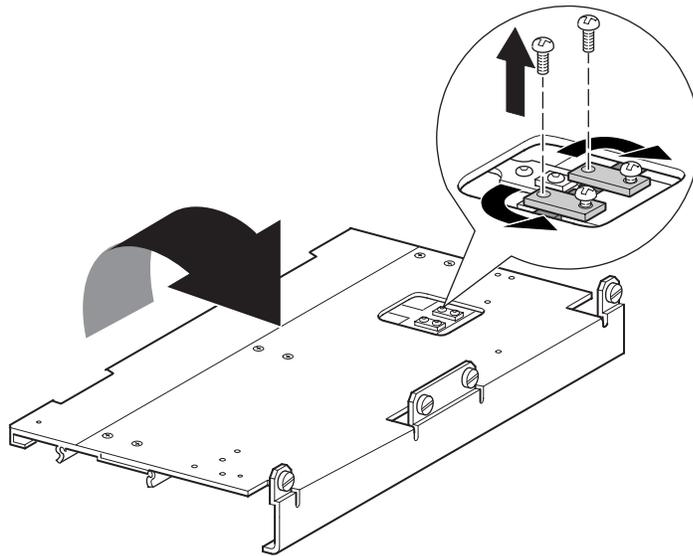

Figure 2–12: Belt block bracket access cutout
5. Turn the PTM base unit over and then remove the drive belt from the media elevator car, the belt tensioner ramp, and the idler pulley (see Figure 2–2).